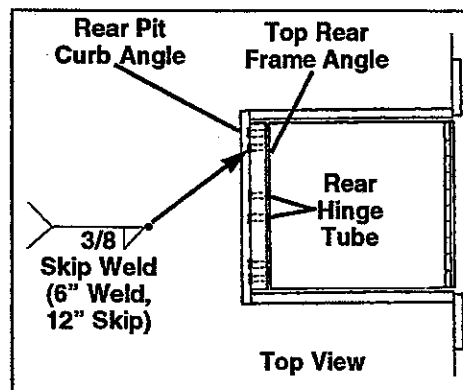

Fig. 21. Weld at Rear Frame Angle
13. Weld the top rear frame angle to the rear pit curb angle. Weld behind each hinge tube of the leveler platform. See Figure 21.